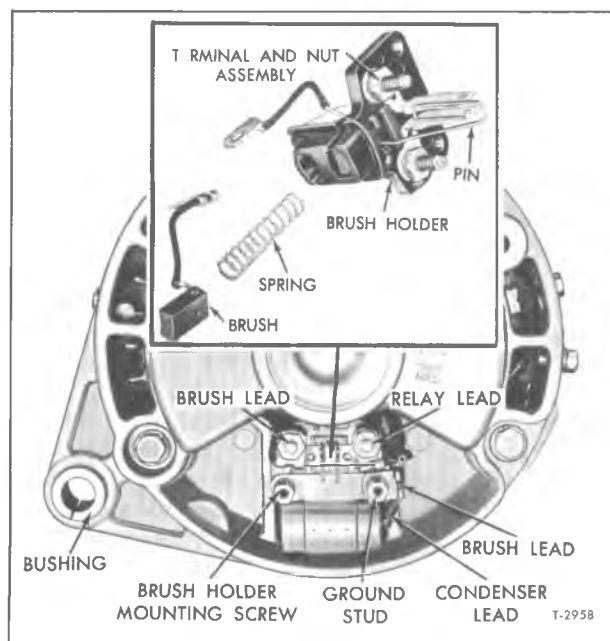

Figure 19—Generator Brush Replacement (Model 1117754) (Typical)
#### Removal (Fig. 19)
#### Installation (Fig. 19)
2. Position brush holder and brushes in end frame, then secure brush and condenser leads to terminals as shown in figure 19.